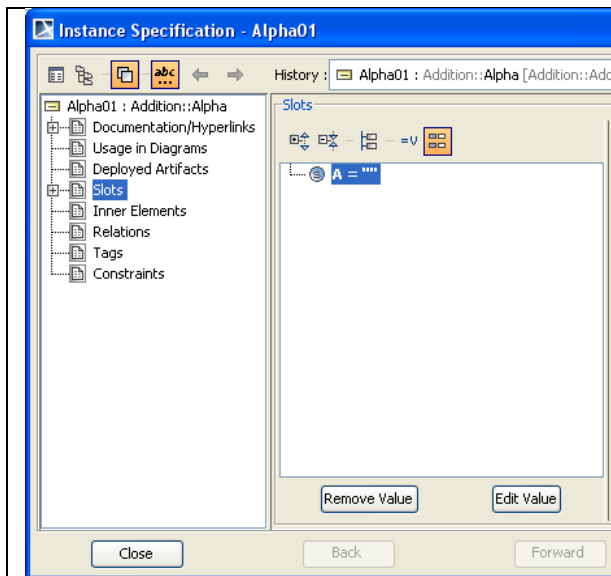

Figure 2.17 Instance Specification
1. DC on alpha01 (see Figure 2.17)